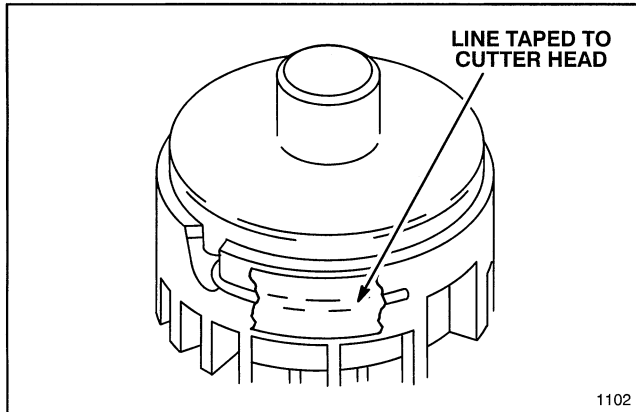

Figure 2
1. To avoid line tangle during shipment, the tip of the monofilament line has been taped to the head assembly (Fig. 2). **The tape must be removed before operation.**